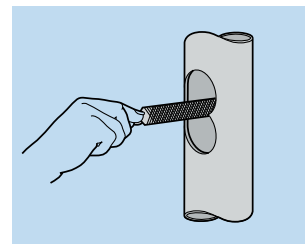

Fig.13
- Remove sides of aperture using a medium file (Fig.13).